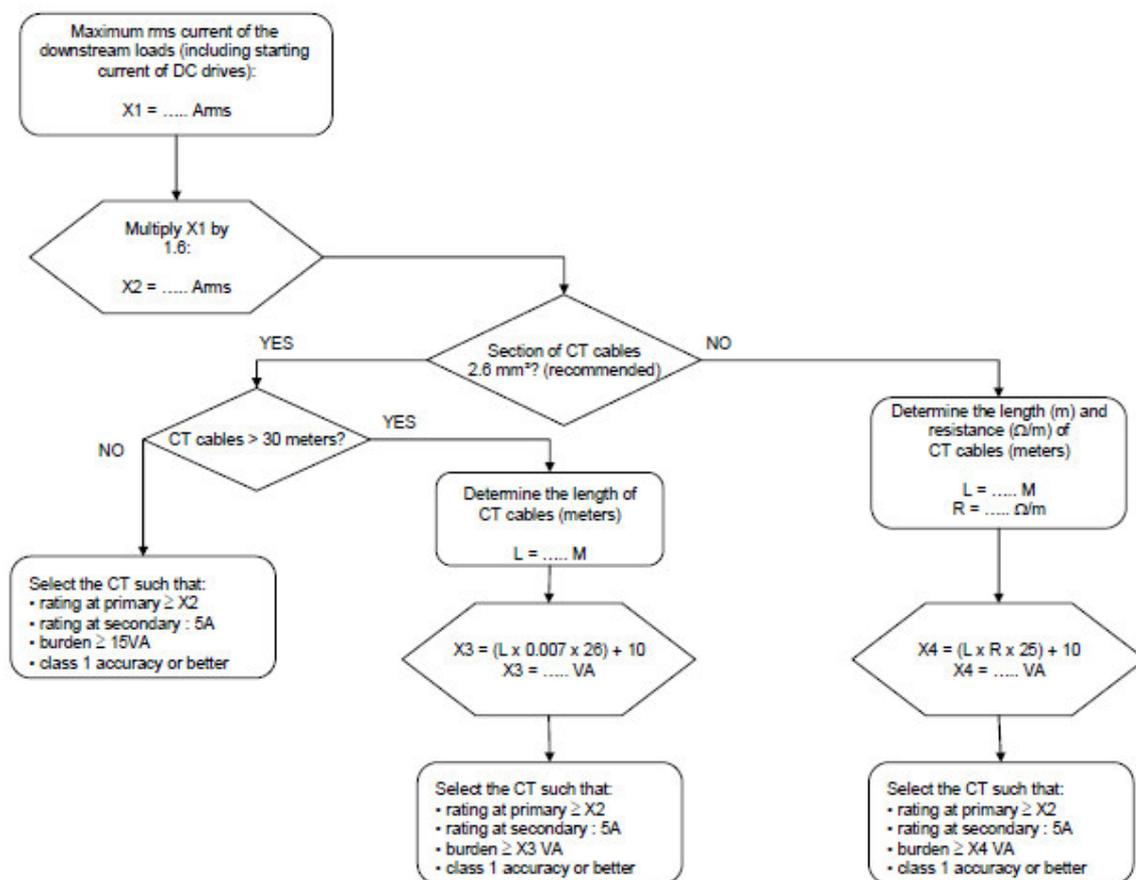

Figure 29: Flow chart for CT determination CT 检测流程图
- 15 VA burden for up to 30 meters of 2.5 mm2 cable. For longer cables lengths refer to the Figure 29 here below. In case of the CT is shared with other loads, the VA burden shall be adapted accordingly. 15VA 负载要求截面积为 2.5 mm2, 长度为 30 米的电缆线。如需更长, 请参照下图 29。在 CT 还带有其它负载的情况下, 此 VA 负载需另外考虑。